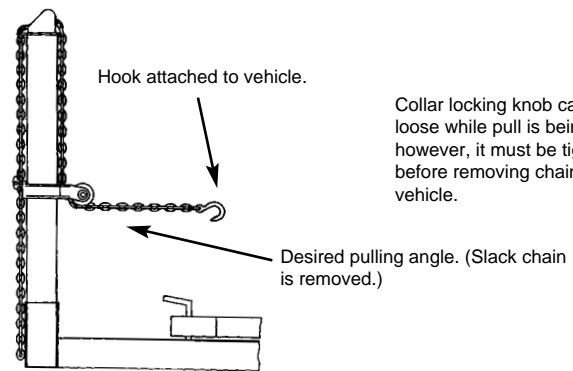

Figure 19
4. Let tower chain hang free momentarily to remove twist. Then, without twisting chain, attach hook to vehicle. Pull on tail end of chain to remove slack and then lower collar. (See Figure 19.)